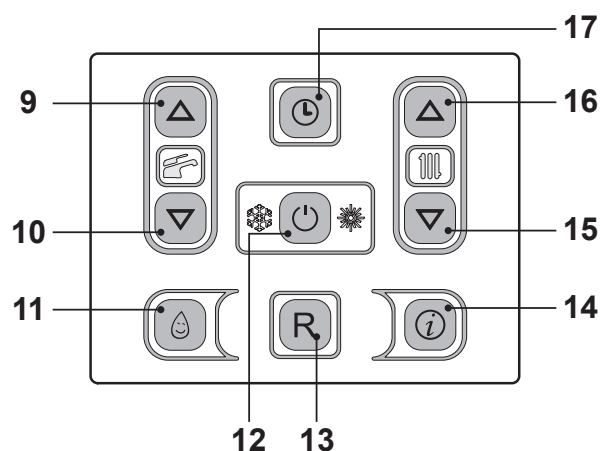
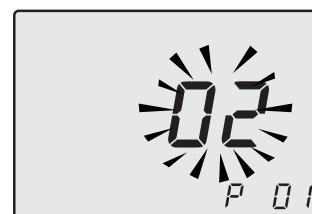
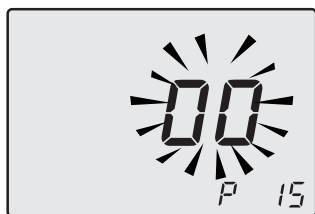

Fig. 7.17
Fig. 7.18
Fig. 7.19
- Enter in "programming mode" by pressing keys 12 - 15 - 16 (Fig. 7.17) for 10 seconds at the same time until the letters **P01** are displayed on the LCD display, indicating that "parameter 01, has been activated (Fig. 7.18).
- Scroll the various parameters using keys 15 or 16 until the letters **P15** are displayed on the LCD display, indicating that "parameter 15" (Fig. 7.19) has been activated.
- By pressing key 12 (Fig. 7.17) confirmation of the inserted value is obtained.
- Press keys 15 or 16 (Fig. 7.17) to exit without changing the value Fig. 7.19)
(increase) (Fig. 7.17).